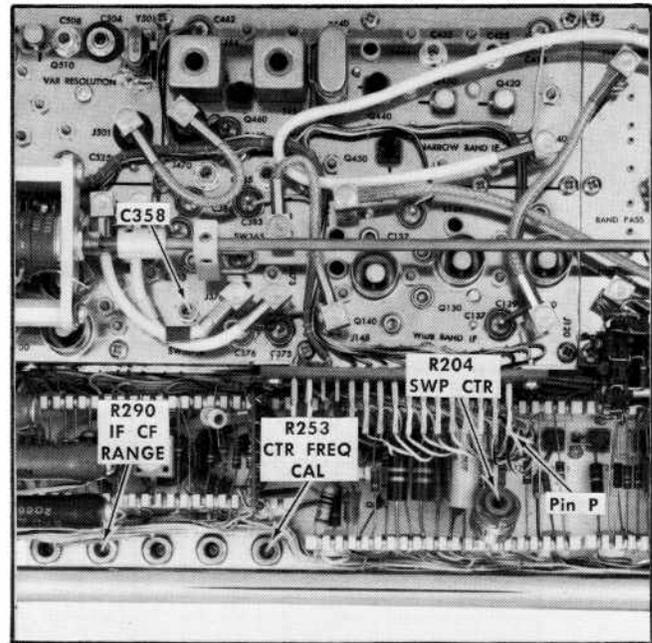

Fig. 5-2. Location of sweeper and discriminator adjustments.
j. Connect the probe of a DC coupled test oscilloscope to chassis ground on the Type 1L40. Establish 0 V reference level on the test oscilloscope, then connect the probe to pin P of the pin connector on the honeycomb assembly, see Fig. 5-2.
k. ADJUST—The IF CF Range R290 (see Fig. 5-2) for -0.75 ± 0.1 volt of trace deflection on the test oscilloscope.
o. ADJUST—the Center Freq Cal R253 (Fig. 5-2) for minimum IF signal shift as the DISPERSION selector is switched between the 10 MHz and .2 MHz positions. The DISPERSION RANGE switch must be in the MHz/CM position for this adjustment.
q. ADJUST—the Sweep Center R204 (Fig. 5-2) to position the 200 MHz signal to the graticule center line.